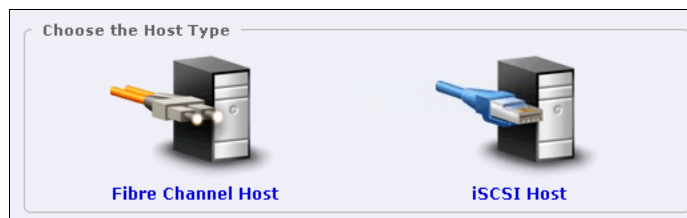
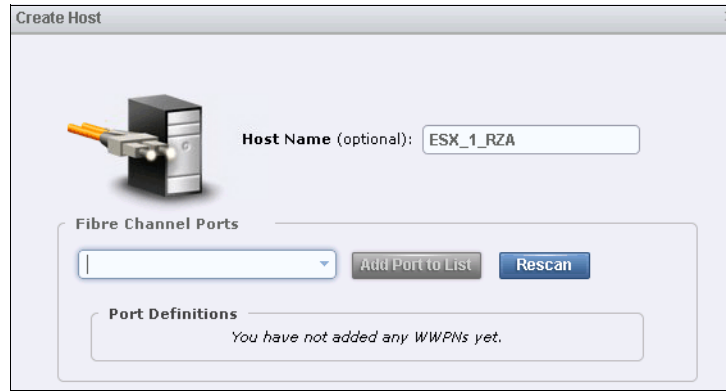

Figure 4-18 Create a host
Figure 4-19 Create a Fibre Channel host
2. To create a host, click **New Host** to start the wizard (Figure 4-18).
1. Click **Fibre Channel Host** (Figure 4-18 on page 121). The Fibre Channel configuration wizard opens (Figure 4-19).
- Click **iSCSI Host** (Figure 4-18 on page 121) and the iSCSI configuration wizard opens (Figure 4-26).